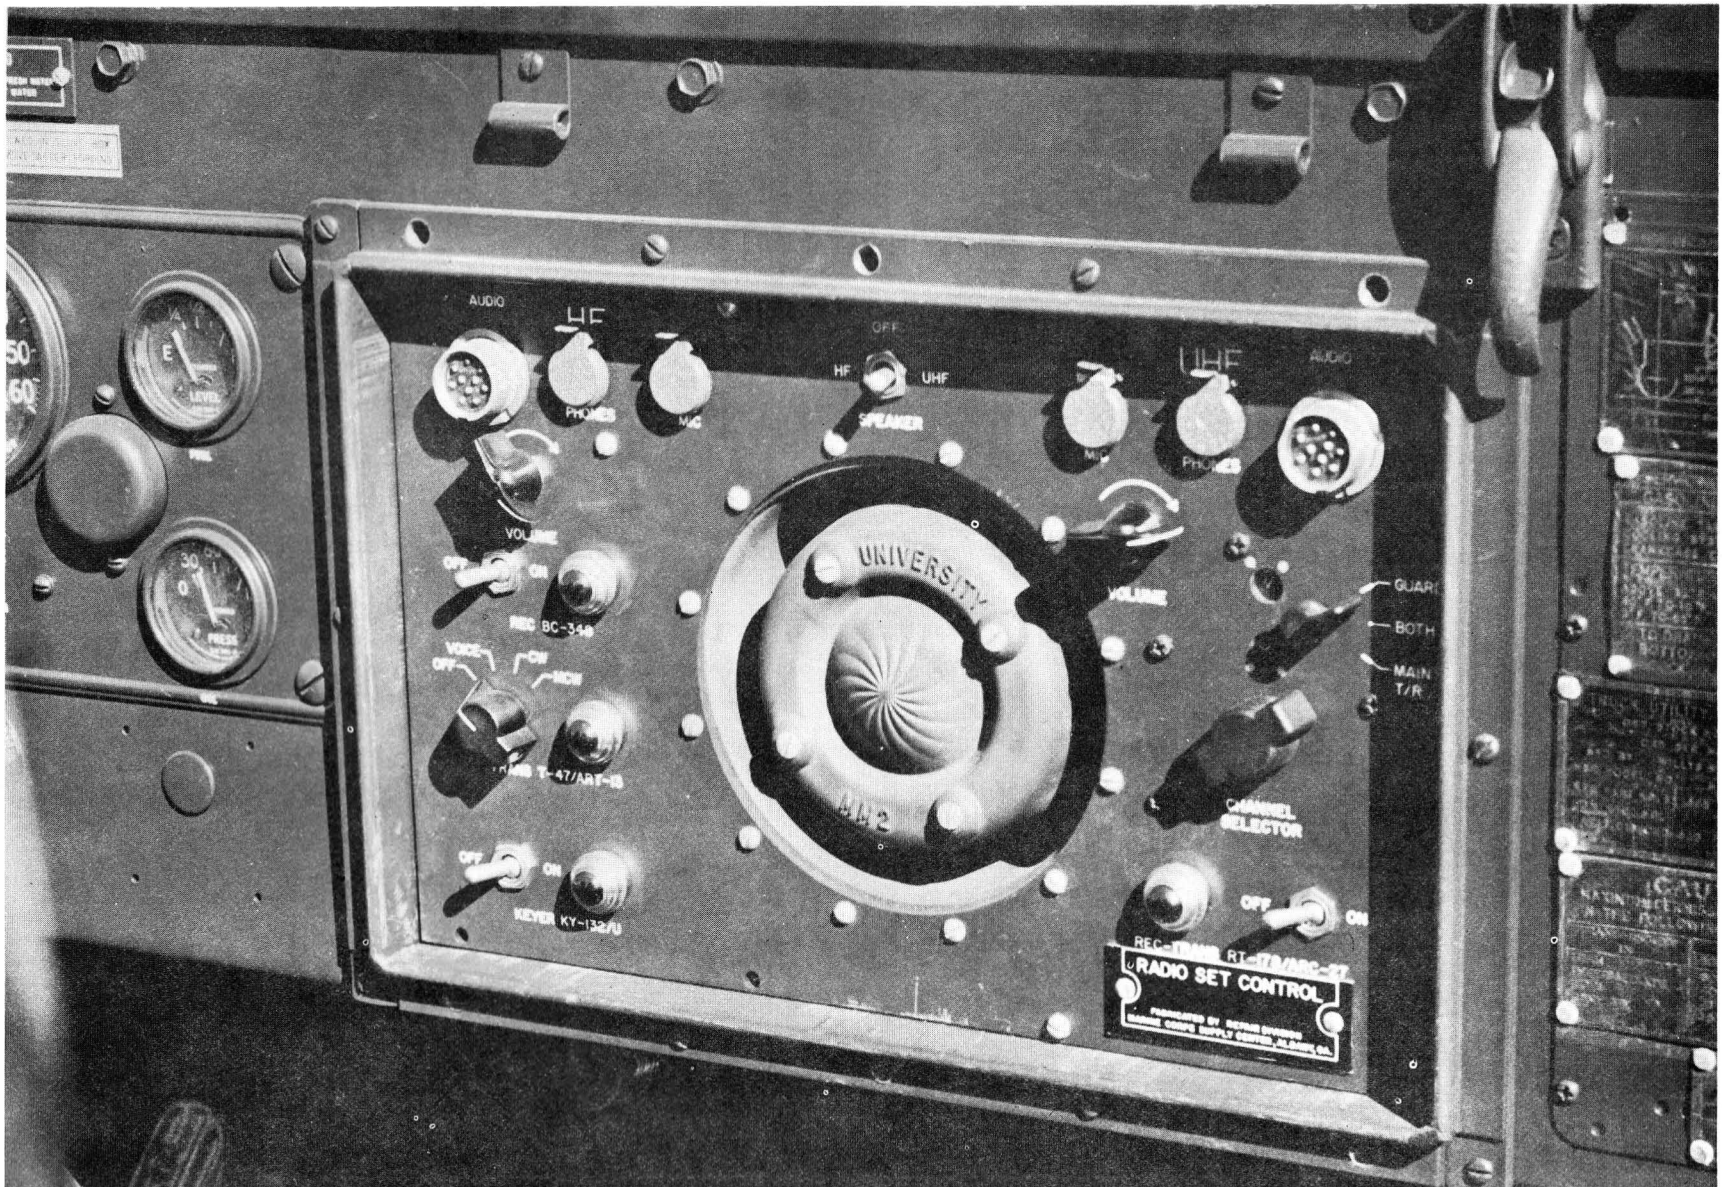

Figure 3-2. Radio Set Control C-2198/MRC-35A
(9) The fuse in the Fuse Terminal Assembly is a slow blow 60 ampere, 32 volt fuse and may not always be readily available. For this reason 10 spare fuses are furnished with this equipment.
b. FUNCTIONS OF THE CONTROLS.—A list of the controls, their function, and their location follows: (Sec figures 3-2 to 3-4 incl.)
c. SEQUENCE OF OPERATION.—Plug a microphone and headset into the appropriate jacks on the Radio Set Control C-2198/MRC-35A. The VOLUME control on the radio set control may be used to adjust the headphone level. (See Figure 3-2.)
(1) Operate the LOCAL-REMOTE (4) switch to the REMOTE position.
(2) Operate TONE-VOICE (5) switch to the VOICE position.
(3) Operate the GUARD-BOTH-MAIN T/R switch (on C-2198/MRC-35A) to T/R position and OFF-ON switch to ON.
(4) Allow at least one minute for the equipment to warm up. At the end of this time, signals above the squelch level will be heard. The SENS. (13) control on the main receiver should be set to the point where only signals of the desired strength will operate the squelch. If the SENS. control on the main receiver is set too high, the set noise will itself operate the squelch, in which case a "hiss," characteristic of thermal noise, will be heard in the headset.
(5) Turn the GUARD-BOTH-MAIN T/R switch to the BOTH position. Reception is now possible on both the main and guard channel frequencies.
(6) Turn the CHANNEL switch to the desired preset channel. Reception and transmission will now be on this frequency.
f. OPERATION ON GUARD FREQUENCY.—(See figure 3-2.) A completely separate guard channel receiver is provided in the equipment to monitor the guard frequency continuously while operating on the